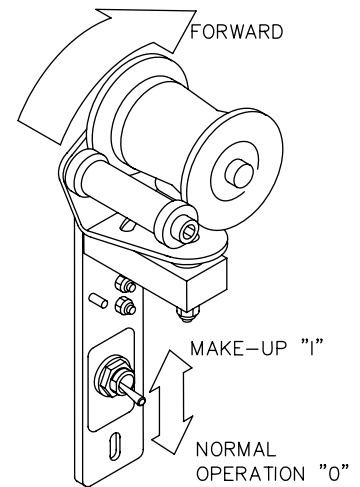

Figure 4
Note: The **SCDC** Platter System uses Feed Castors (Figure 4) to control the pay-out and rewind functions of each platter. When a platter is not in use or is used as a **Pay-Out** platter, the feed castor is tilted rearward. When film is routed through the feed castor pulley the feed castor is tilted forward putting the platter in the **Rewind** mode.
2. Place the Make-up switch on all Feed Castors (Figure 4) in the “0” (Down) position.
6. Turn the platter by hand to increase film tension. As film tension pulls the feed castor (Figure 4) forward, the **Rewind** platter will rotate and raise the take-up carriage.